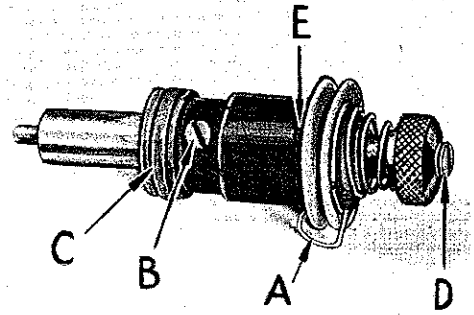
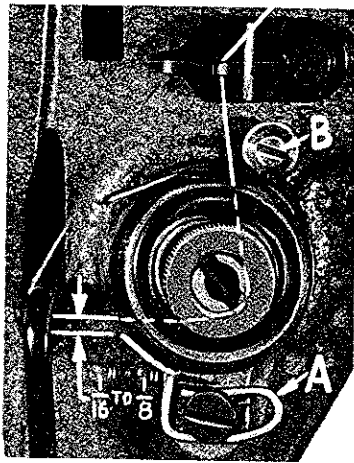
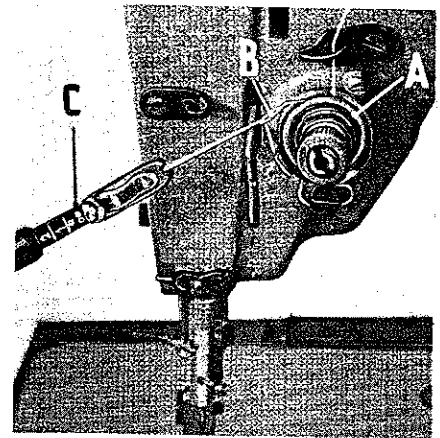

Fig. 17
Fig. 18
Fig. 19
Test check spring tension (A, Fig. 17). There should be enough tension to assure a good returning snap when spring is depressed and released. Should it require adjusting, loosen set screw in the head located under arm and to the right of tension assembly, and remove tension assembly. Partially loosen tension post set screw (B) in tension post socket (C). Turn the tension post (D) counterclockwise until the check spring moves away from the upper stop (E) and has no tension on it. Turn the tension post (D) in a clockwise direction until the spring again touches the upper stop (E). Then, proceed further in the same direction until the desired tension is obtained. When correctly set, the tension post set screw (B) should be drawn up snugly, yet not forcefully. Further adjustment of the check spring tension can be made by inserting a screwdriver into the slotted end of the tension post (D) and turning in the required direction.
The in and out position of the tension assembly is correct when the tension discs are in line with the check spring eyelet (A, Fig. 18). Set the stop screw (B, Fig. 18), so that when the flange of the tension assembly rests against it, this position is maintained. Tighten the tension assembly set screw.
insure a good returning snap when spring (B, Fig. 19) is depressed and released. The check spring tension is adjusted from about 1 to 1 1/4 ounces when measured with a postal scale (C, Fig. 19). This is measured when the check spring is 1/32 to 1/16 inch from its stop. The tension post set screw should be drawn up snugly but not forcefully tightened (B, Fig. 17). The tension release pin should move freely in the tension post (D, Fig. 17). The check spring eyelet (A, Fig. 18), located just below the tension discs, should be set for correct height as follows:
With a thread running from the tension post to the thread wire in a straight line, the check spring eyelet should be set 1/16 to 1/8 inch below the thread line (Fig. 18). Be sure the eyelet is set close to the tension discs so that the check spring will pass freely over it without obstruction. After making this setting, proceed to thread machine as per threading diagram (Fig. 2).